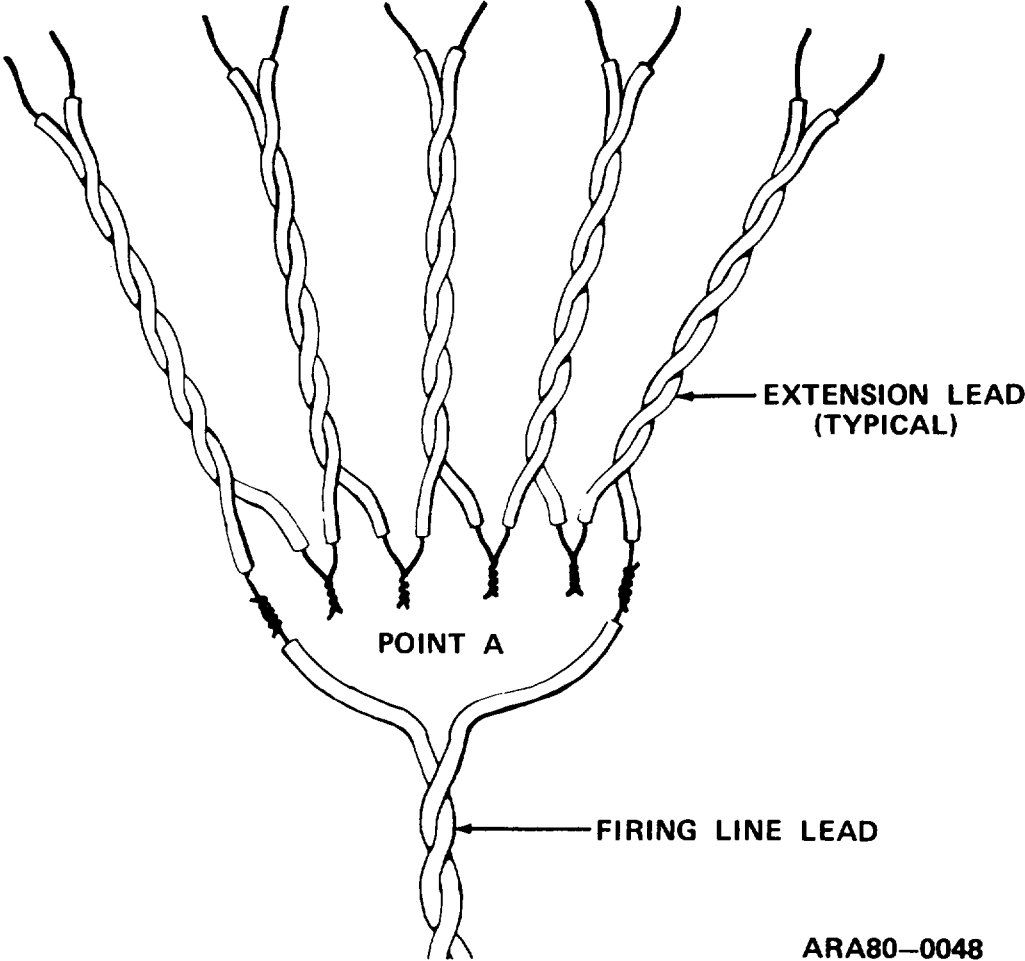

Figure 2-9. Extension Leads Connected to Firing Line Lead at Point A. (Illustration exaggerated for clarity.)
(1) Connect conductors of extension leads to each other and connect conductors of firing line lead, as shown in figure 2-9.
(2) Make sure bare connections are separated to avoid electrical short.
(3) Remove wire and proceed to paragraph 2-5b.
(4) If set is inoperative, requisition new one.
2. Check and be sure connections at point A are properly connected and separated from each other as shown in figure 2-9. Correct improper connection.
2. At point A (fig. 2-9) disconnect firing line lead from extension leads.
6. Connect firing line lead to extension leads (fig. 2-9).
2. Disconnect extension leads from each other at point A (fig. 2-9).
b. At Point A (fig. 2-9), Kneel and disconnect extension leads from firing line lead. Twist end of firing line lead together.